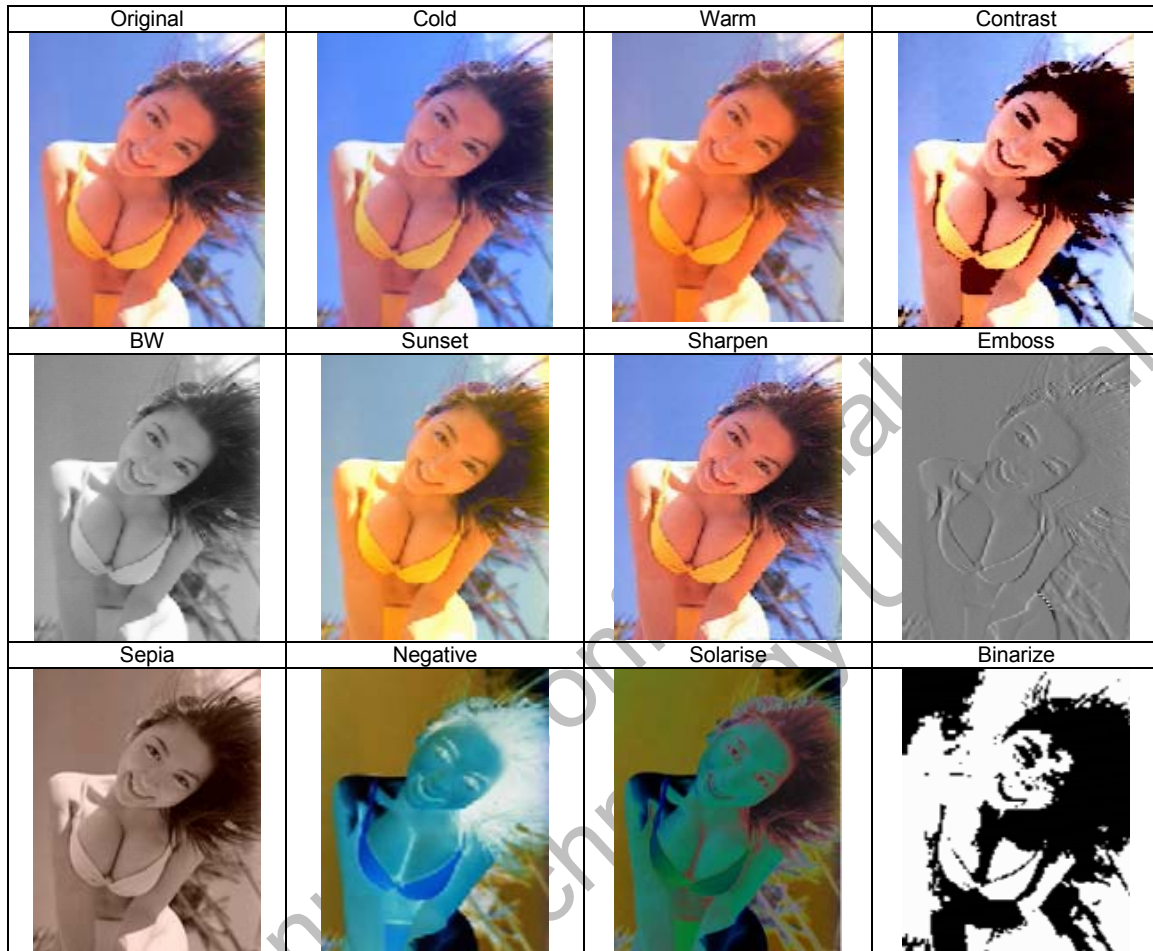

Figure 6-1-3: Image filter in the preview mode
- 3.) With the color DSP, the SPCA554A can apply different filters to produce fancy image effects as shown in Figure 6-1-3.
- 3.) Additional filters can be applied to YUV image data as shown in figure 6-5. This is achieved by the SPCA554A internal CPU. Note that the filter in figure 6-1-3 is handled by the